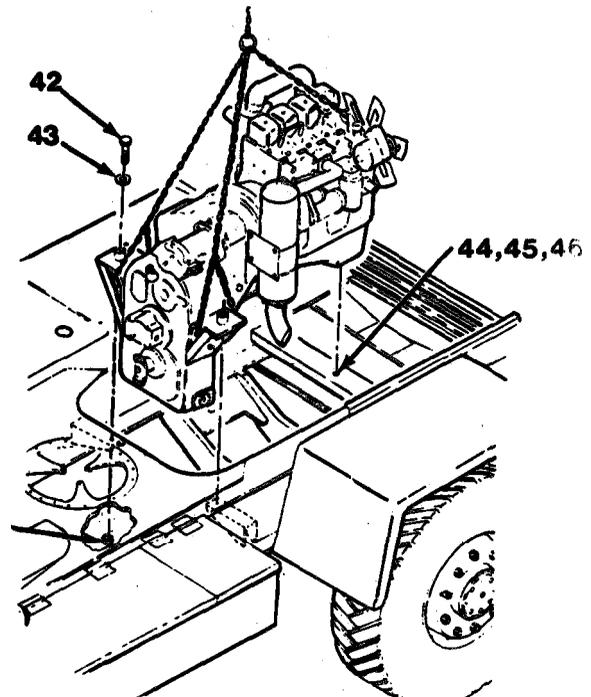

Figure 6-6
15. Engine/transmission assembly is mounted at three points with rubber shock mounts, one at front of engine and two on sides of transmission. Remove two nuts (41), capscrews (42) and spacers (43) from sides of transmission. Remove capscrew (44), washer (45) and spacer (46, Figure 6-6) from front of engine. Check to make sure path up and out of frame is clear of hoses, wires and brackets.